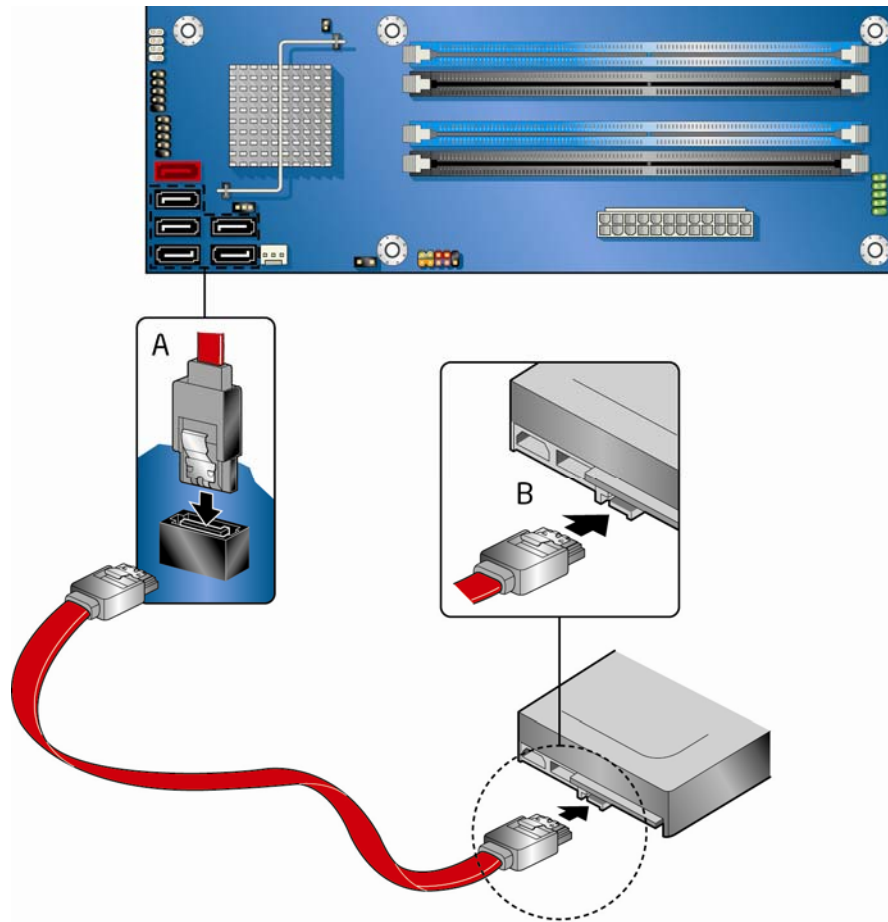

Figure 21. Connecting a Serial ATA Cable
2. Attach one end of the SATA cable to one of the black SATA connectors on the board (Figure 21, A) and attach the other end of the cable to the SATA drive (Figure 21, B).